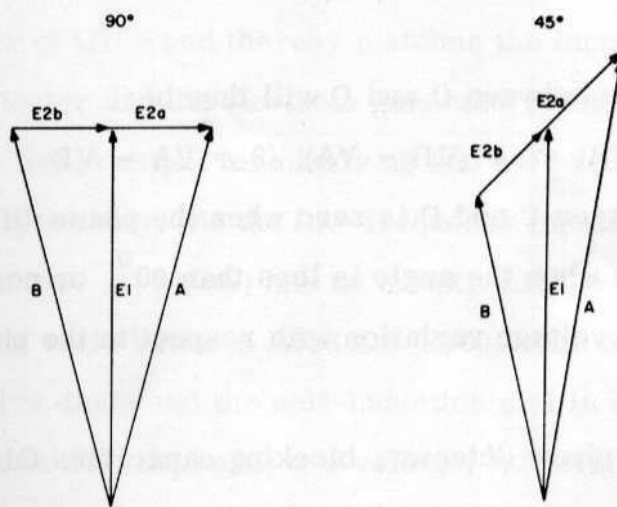

Figure 4-8. Phase Detector, Simplified Schematic Diagram.
(1) Phase Detectors. - The phase detectors consist of transformer T151 with associated components. Phase detector 1 includes diodes CR152-CR155 and phase detector 2 includes diodes CR156-CR159. The two detectors are driven commonly by transformer T151, whose primary is connected through pin b6 to the Isolation Amplifier (IA) unit. The signal from the radio set is connected to pin a3 through a voltage divider in the chassis assembly (R601 and R602). This voltage is supplied to the center taps of the transformer windings through a phase shift network consisting of C160, R167, L151 and R176. If the phase difference between generator voltages (fig. 4-8) E1 and E2 is 90° , the vector diagram is as shown. The voltage at point A in the schematic is the vector sum of E1 and E2a and is shown by vector A. Similarly, the voltage at point B is the vector sum of E1 and E2b, except that E2 has been shifted
OUTPUT VOLTAGE BETWEEN C AND D (fig. 4-8)